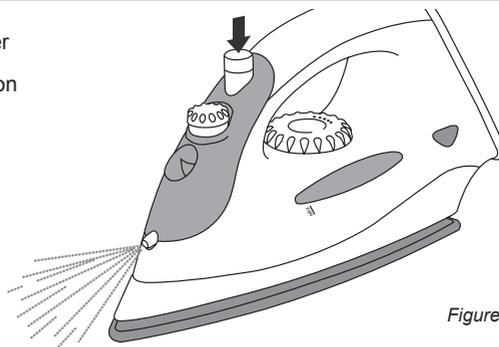

Figure 3
knob (6) to the '☂' position and then press it (see figure 3).